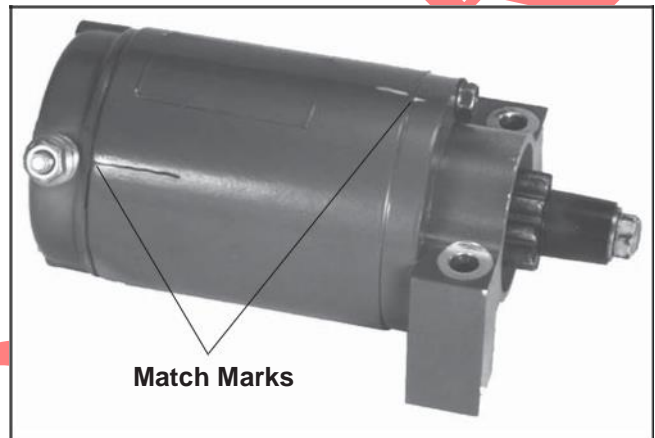

Figure 8-23. Starter Assembly Match Marks.
2. Locate the small raised line on the edge of the drive end cap. On starters with Style "A" commutator end caps, it will be aligned with a premarked line on the starter frame. The frame is not premarked on starters with Style "B" end caps. Place a piece of masking tape on the frame and mark a line on the tape in line with the raised line on the end cap. See Figure 8-23.
3. Install the drive end cap over the drive shaft. Make sure the match marks on the end cap and starter frame are aligned. See Figure 8-23.